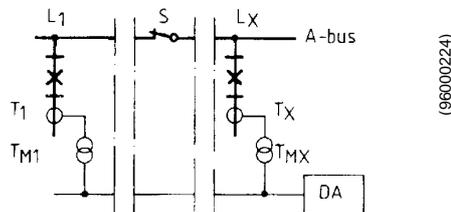

Fig. 1 Single-bus one-zone with bus section switch normally closed
The most simple and reliable installation is the single bus one-zone arrangement (Fig. 1). In this case it can also be permitted that the bus section switch (S) is opened at certain